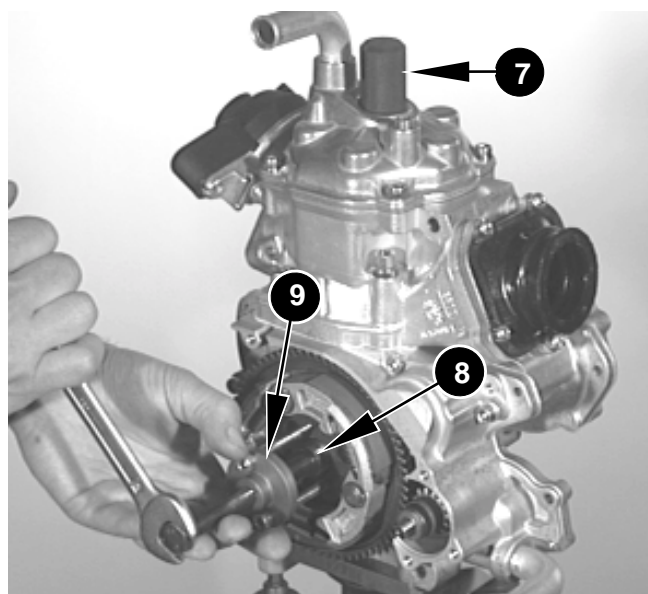

Figure 7
- ⇒ Fit the crankshaft fixation tool (7) completely into spark plug tapping (fig. 7)
- ⇒ Press off the starter gear by turning-in the puller screw M10 (fig 7)
- ⇒ Remove the two Allen screws securing the reduction gear cover (10) and remove the reduction gear cover.
- ⇒ Remove the starter reduction gear assembly (11) and the trustwasher (12) underneath.
- ⇒ Remove the crankshaft fixation tool (7) from the spark plug tapping.